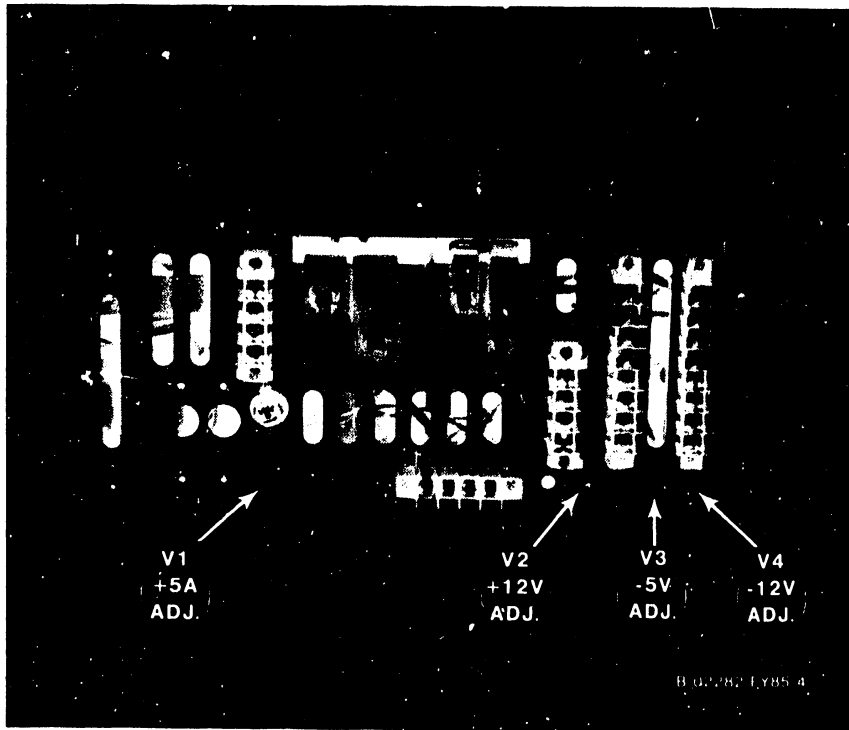

Figure 4-10. Multioutput Power Supply
4. The following power supply voltages should be measured at the test points on the Power Supply Controller. Adjust the voltages to the readings listed below using the potentiometers on the front of the particular switching power supply at the rear of the mainframe (figures 4-10 and 4-11).